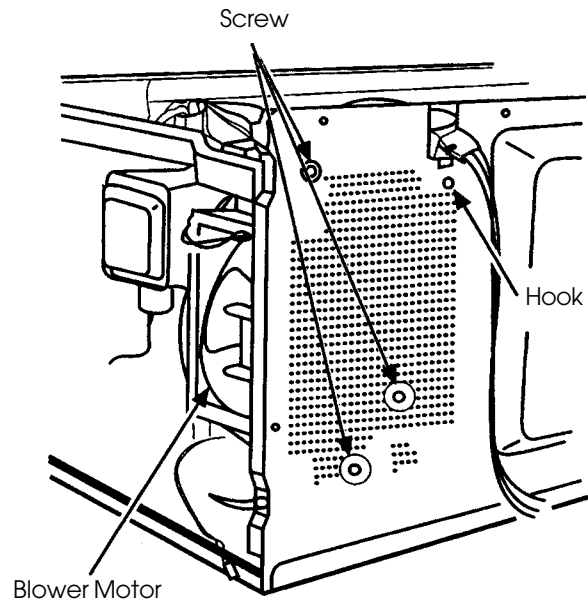

Figure 12
- (1) Remove screw securing the stay.
- (2) Disconnect all lead wires from the blower motor and H.V. capacitor.
- (3) Remove 3 screws securing the blower base and disengage 3 hooks from the rear plate of cavity (Figure 12).
- (4) Remove 1 screw securing the blower motor with the blower base.